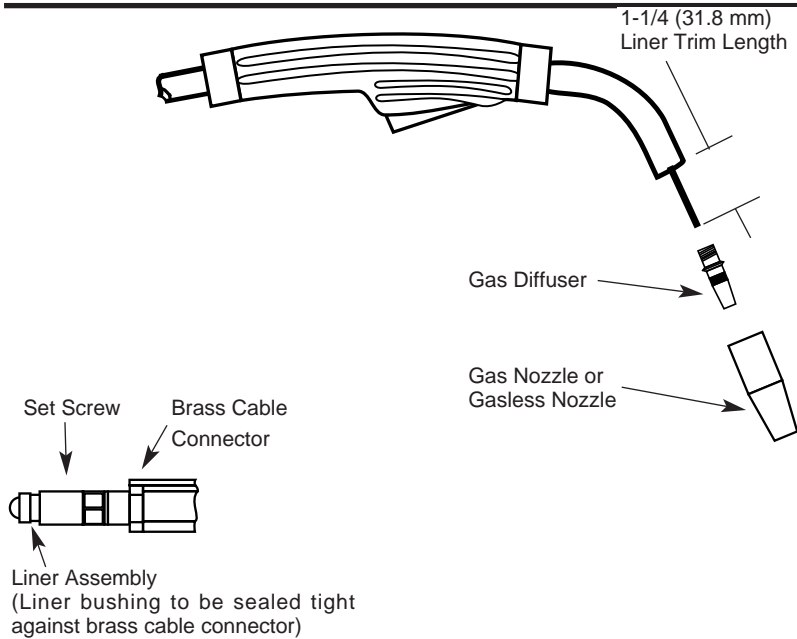

FIGURE D.2
1. Refer to Figure D.2. Remove the gas nozzle from the gun by unscrewing counter-clockwise.
NOTICE: The variation in cable lengths prevents the interchangeability of liners. Once a liner has been cut for a particular gun, it should not be installed in another gun unless it can meet the liner cutoff length requirement. Refer to Figure D.2.
7. With the gas nozzle and diffuser removed from the gun tube, be sure the cable is straight, and then trim the liner to the length shown in the Figure D.2. Remove any burrs from the end of the liner.